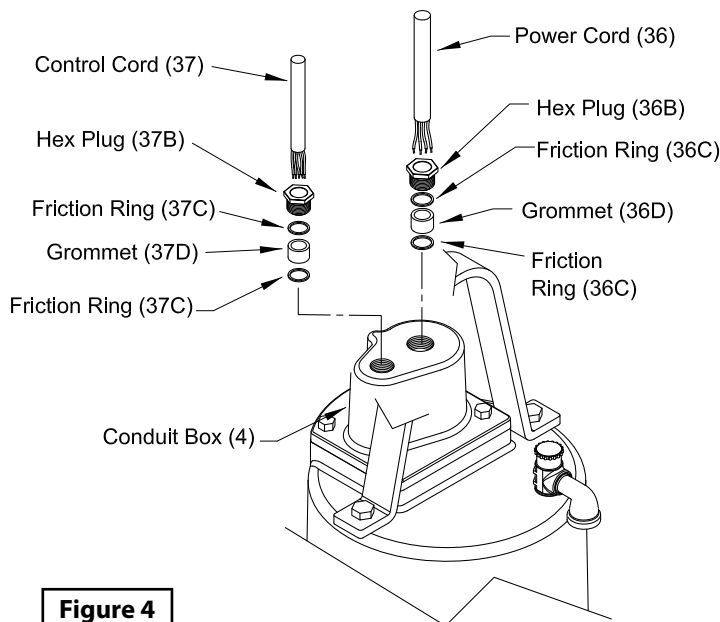

Figure 4
Conduit Box Assembly - Check power (36) and control cables (37) for cracks or damage and replace complete conduit box (4) if required. (See Figure 4) Bring motor wires through opening in top of motor housing (3), check sleeving and replace if damaged. Position square ring (5) in conduit box (4) and reconnect leads using connectors and insulators. See Figures 5, for wiring schematics.
Remove gland nuts (36B) and (37B), friction rings (36C) and (37C), and grommets (36D) and (37D) from conduit box (4), inspect and replace if damaged (See Figure 4).